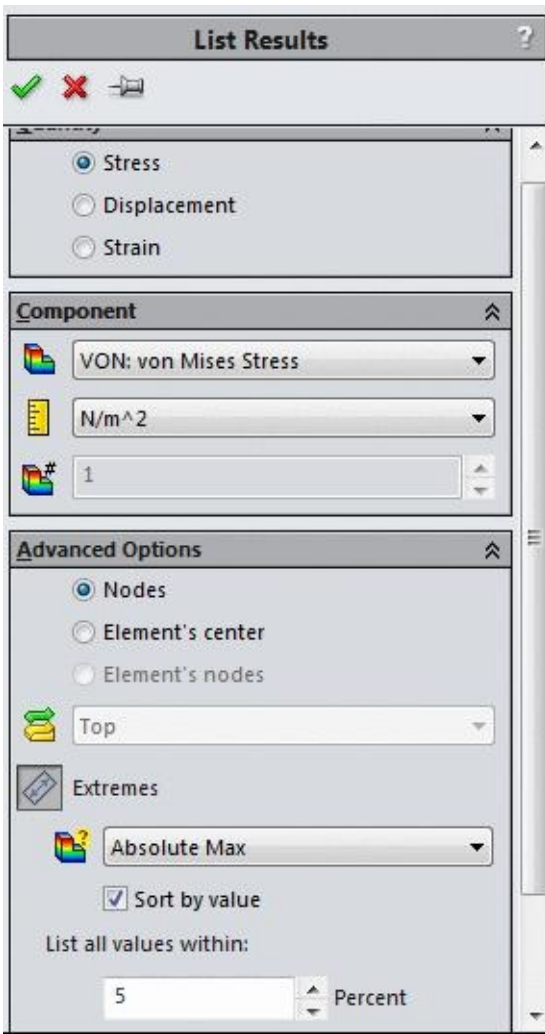

Figure-90. List Results PropertyManager with expanded Advanced Options rollout
- Click on the **Advanced Options** to expand the rollout. The advanced options related to the selected radio button will be displayed. Refer to Figure-90.